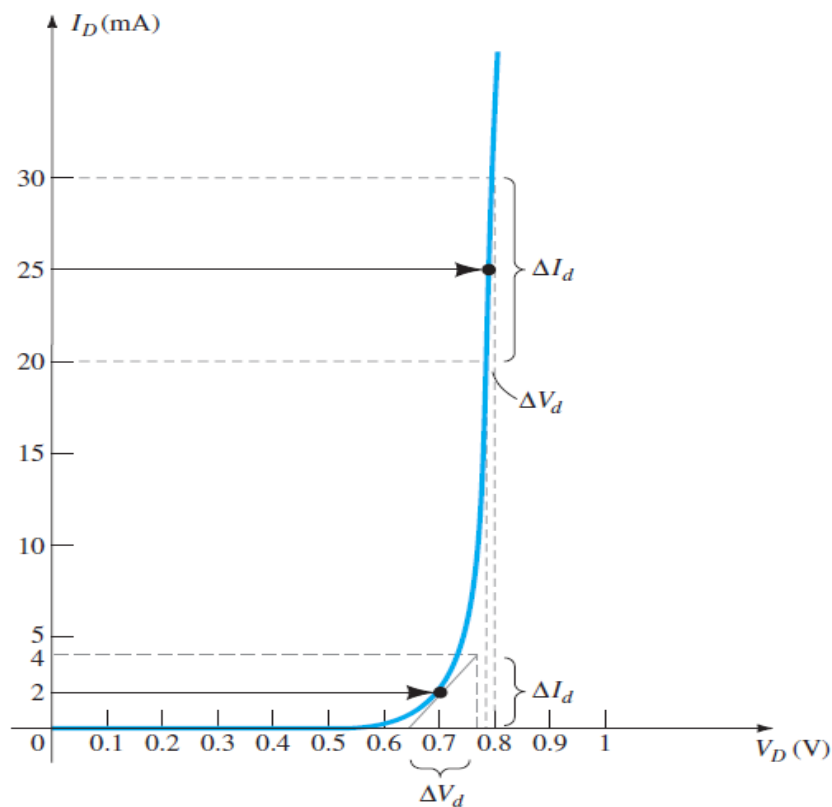

Fig. 5
Example 5: For the characteristics of Fig. 5:
b. For $I_D = 25 \text{ mA}$, the tangent line at $I_D = 25 \text{ mA}$ was drawn as shown in Fig. 5 and a swing of 5 mA above and below the specified diode current was chosen. At $I_D = 30 \text{ mA}$, $V_D = 0.8 \text{ V}$, and at $I_D = 20 \text{ mA}$, $V_D = 0.78 \text{ V}$. The resulting changes in current and voltage are, respectively,